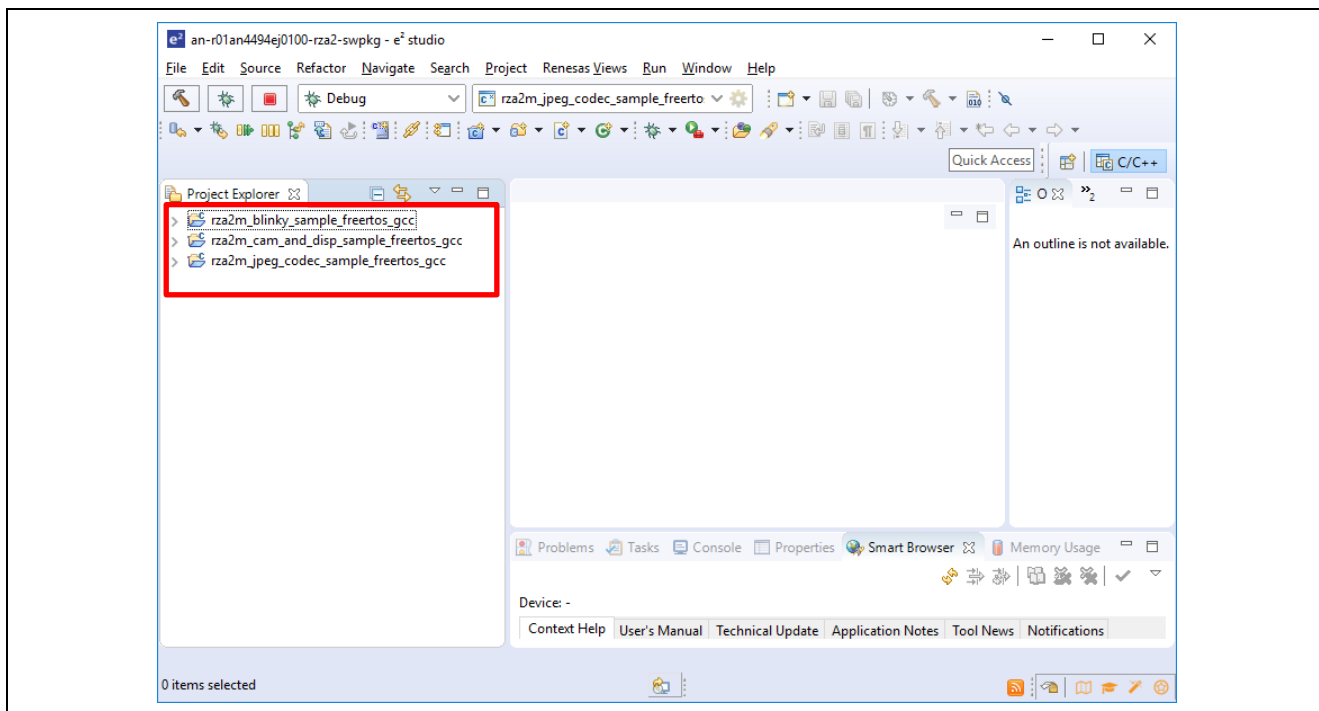

Figure 3-7 Confirmation on 'Project Explorer' window
- Now, target projects are imported, and user can see them in the Project Explorer window. This is shown in Figure 3-7.